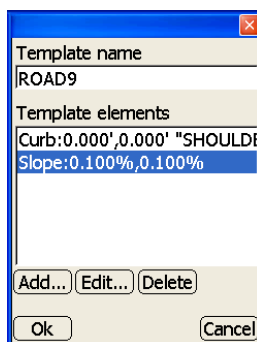

Figure 3-39. Template Elements Dialog Box
- Add – on the *Template definitions* dialog box, press **Add** to enter new template elements, then press **Ok** to save the information (Figure 3-39 on page 3-25). See below for details.